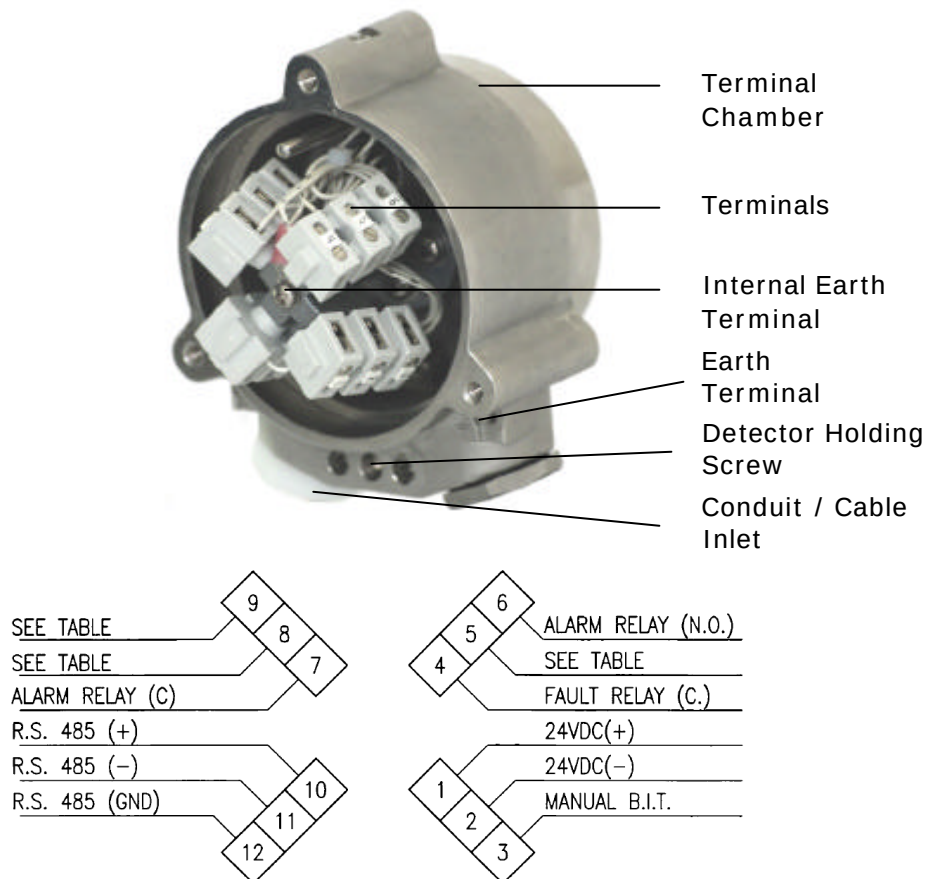

Figure 7: Detector with Cover Removed
- 17** Connect the wires to the required terminals on the Terminal Board according to the wiring diagram figure 7 and table 16
- 20** Check the wires for secure mechanical connection and press them neatly against the terminal to prevent them from interfering while closing the back cover (figure 7)